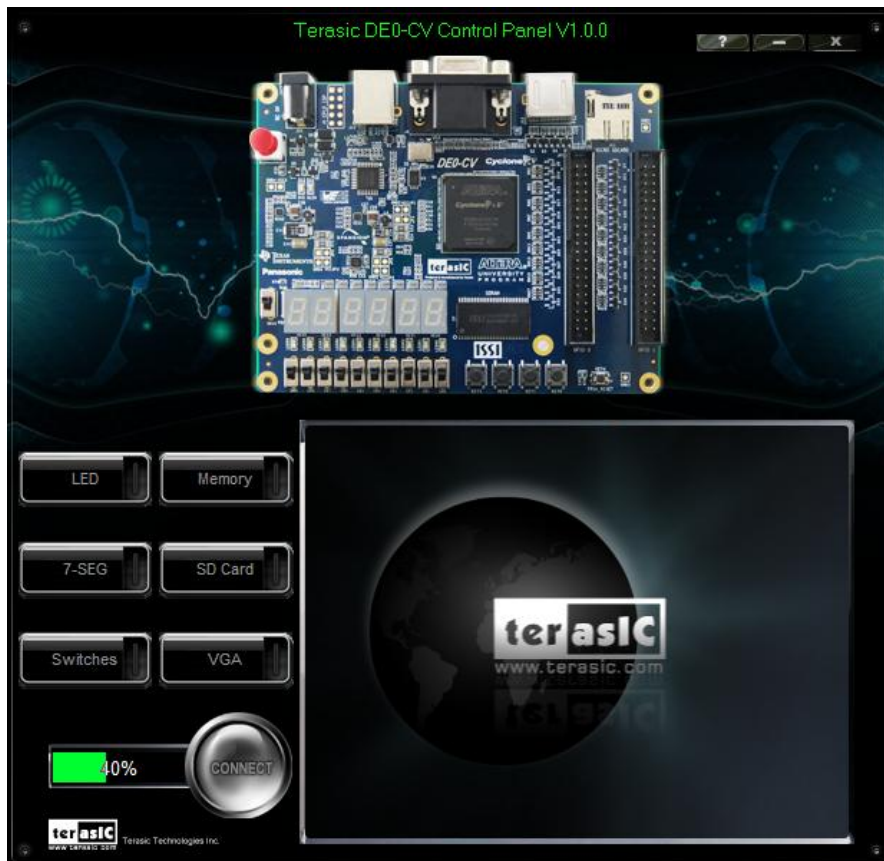

Figure 2-1 The DE0-CV Control Panel
4. Start the executable *DE0CV_ControlPanel.exe* on the host computer. The Control Panel user interface shown in **Figure 2-1** will appear.